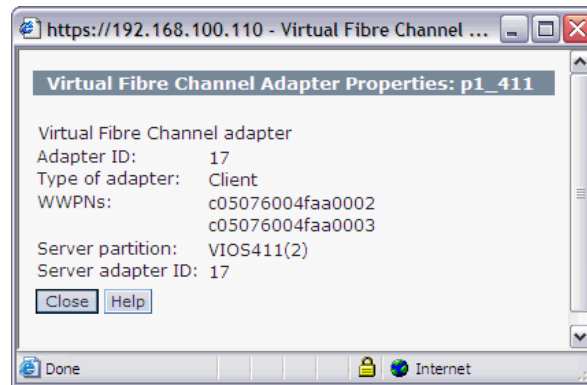

Figure 7-10 Virtual Fibre Channel client adapter properties
- b. Figure 7-10 shows the properties of the virtual Fibre Channel client adapter. Here you can get the WWPN that is required for the SAN zoning.